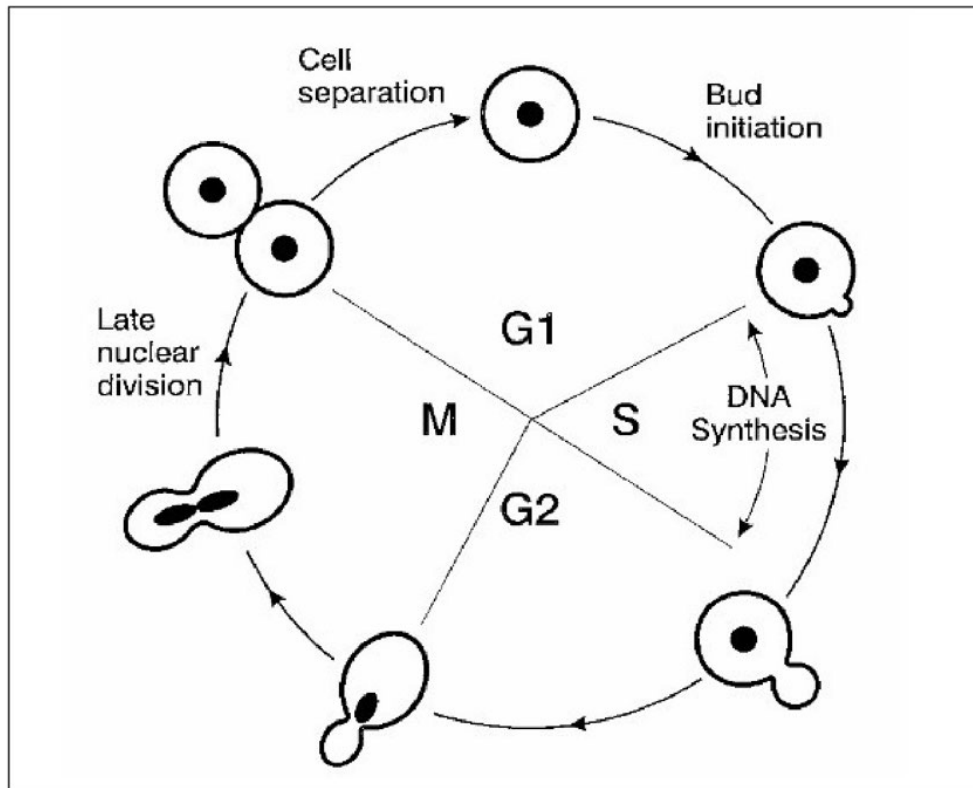

Figure 35 – Yeast cell growth stages
Figure 35 illustrates the stages in yeast cell division as daughters are made. (3) When the yeast cell decides to form a daughter, enzymes in the cell wall cause weakening in a small area of the wall. The cell wall then bulges out slightly to form a bud. As this is occurring, the cell begins to make DNA material which will be passed to the daughter. This is the 'S' part of Figure 35. At this point, the cell does a quality check. If DNA defects are noted, cell division is arrested. This is the G2 part of Figure 35. If all is normal, the 'M' phase unfolds, where M denotes mitosis. In mitosis, the DNA material is passed to the daughter cell. What follows next is the separation of the daughter from the parent. But one final quality check is in order, which is G1. If DNA defects exist in the daughter or if the daughter is improperly sized, she will not be allowed to replicate her own daughters in her own 'S' phase.